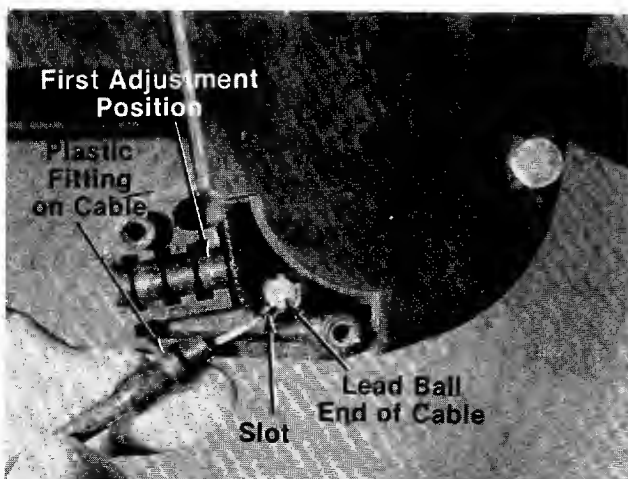

FIGURE 8.
13. The drive clutch control cable is attached to the deck. Place the lead ball end of the cable into the fitting provided in the end of the clutch control lever. Slip the wire into the slot as shown in figure 8.
14. Place the plastic fitting on the control cable into the first adjustment position on the clutch control housing. See figure 8.